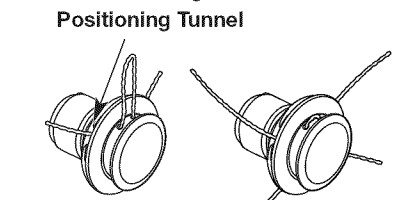

Fig. 16
- Push and/or pull the line so that the line is snug against the hub and is fully extended through the positioning tunnels. (Fig. 16)